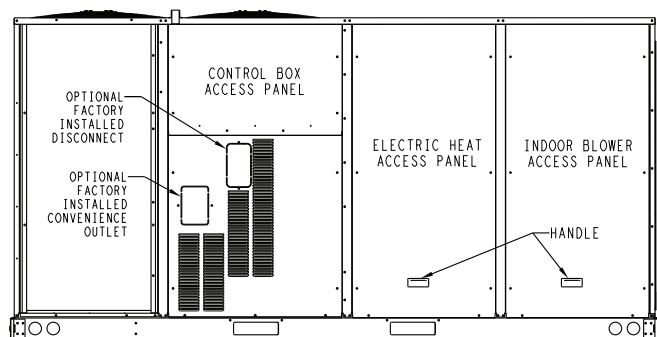

Fig. 8 — Typical Indoor Fan Motor Access Panel Locations
12. Remove the indoor blower access panel and the panel(s) covering the unit control box. (See Fig. 8.)
25. Re-install the indoor blower access panel. (See Fig. 8.)
27. After powering unit controller, program the W7220 controller per the instructions to follow. See Programming the W7220 Controller section on page 12 for summarized controller set-up instructions. After all settings have been made, re-install the unit control box panel. (See Fig. 8.)